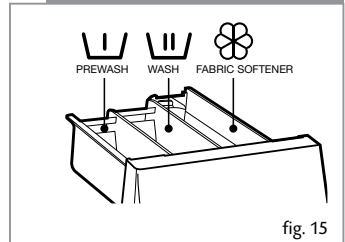

fig. 15
- Add the detergent or additive to the detergent dispenser before starting the wash programme (Figure 15).